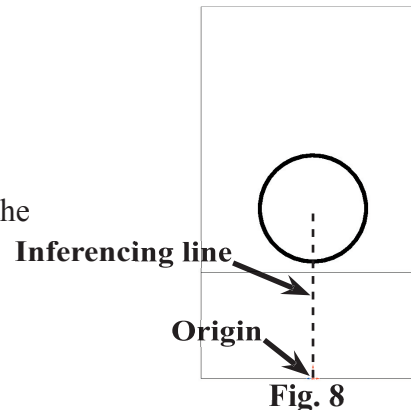

Fig. 8
Step 5. Draw a circle for the cartridge hole, Fig. 8. Use the vertical inferencing line, the dotted line that appears when you draw to keep the circle directly above the Origin , Fig. 8.
Step 6. Click **Fully Defined Sketch**  (D) on the Sketch toolbar and OK  in the Property Manager.